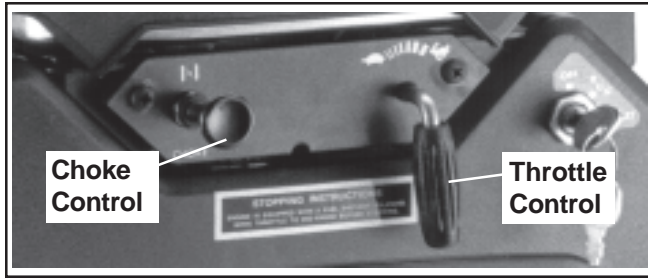

Figure 6. Optional Engine Mounted Throttle and Choke Controls (CH18-25).
1. Place the throttle control **midway** between the “**slow**” and “**fast**” positions. Place the choke control (CH18-25 engines only) into the “**on**” position. See Figure 6.